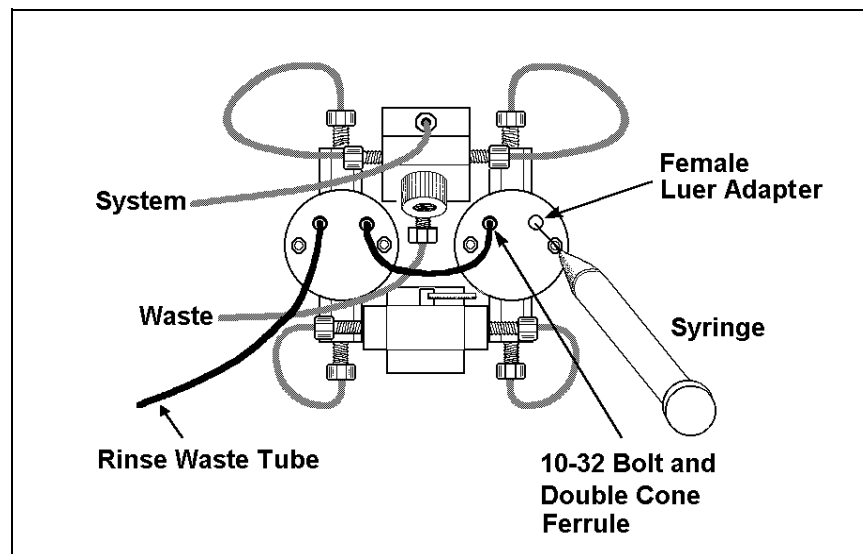

Figure 3-18. Rinsing the Pump Heads
1. Open the lower pump door and locate the two rinse ports on the front of each of the pump heads. Either port can be used for rinsing. Figure 3-18 shows the typical rinse port connections.